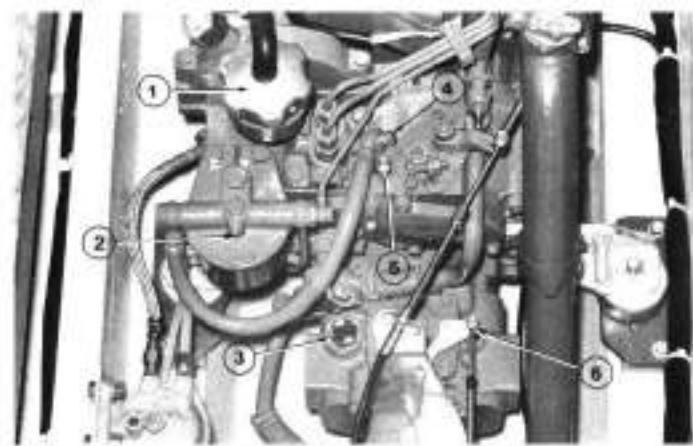
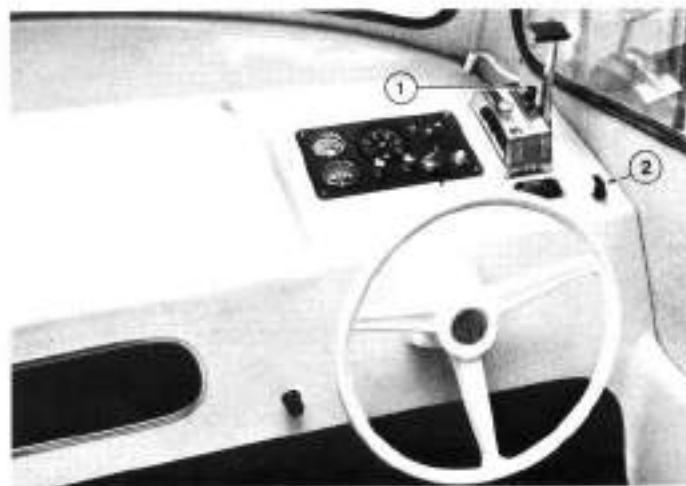
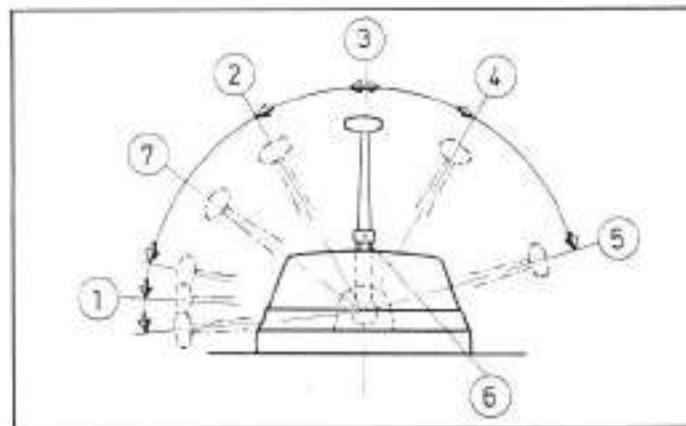

Fig. 3. Fuel vent screws and other details
Fig. 7. Control position with instruments
Fig. 8. Teleflex controls
7. When the engine is tested before delivery the fuel system is bled free of air. It would be wise to do this again before the first start. It is important to know how to bleed the fuel system in case you happen to get air in the system while away cruising. This can happen if the fuel level is too low and the boat is rolling heavily. Try not to allow the fuel level to fall below 10 to 15 litres. The bleeding is performed as follows (fig. 3 and 4): The fuel is pumped using the hand primer. With long strokes at least 30 vertical movements will be necessary. Then open the vent screw on the fine filter. Continue pumping until fuel free from air bubbles flows out. Close the screw. Open the vent screw on the fuel injection pump. Now pump again until fuel free from air bubbles flows out. Close the vent screw.
2. Check that the stop control is pushed in (fig. 7).
3. Disengage the control lever with the disengaging latch (fig. 7) and move the control lever ahead to the starting position (position 7 in fig. 8).
- 7 Move the control lever back to neutral when the engine is running evenly (position 3 in fig. 8).
NOTE: If the engine is difficult to start in cold weather the cold weather starting button on the fuel injection pump should be pushed in. This will supply a richer starting mixture. Set the control lever at the starting position (position 7, fig. 8) then push the cold weather starting button. It will remain in until it automatically releases when the engine starts. The position of the button is shown in fig. 3.
With the control lever in neutral (position 3, fig. 8) the propeller is not coupled to the engine and the engine is idling at about 600 rpm. Moving the lever forward to the distinct position 2 couples the propeller to the engine at idling speed. Moving the lever farther forward increases the engine speed. When the lever is moved backward to the distinct position 4 the propeller is coupled to the engine at idling speed. The propeller is now turning in a reverse direction. Moving the lever farther back increases engine speed.